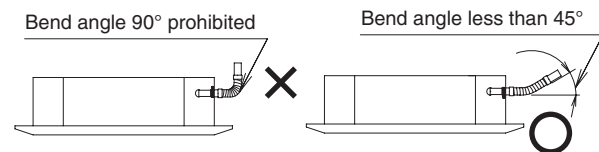

Fig. 1-127
- Do not bend the supplied drain hose 90° or more. Bend it less than 45°. (Fig. 1-127)